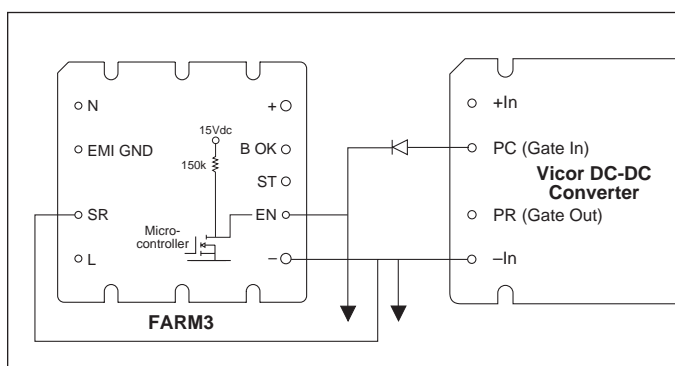

Figure 11—Enable (EN) function
Enable (EN) Pin. The Enable pin must be connected to the PC or Gate-In pin of all converter modules to disable the converters during power-up. Otherwise, the converters would attempt to start while the hold-up capacitors are being charged through the current limiting thermistor, preventing the bus voltage from reaching the thermistor bypass threshold, thus disabling the power supply. The Enable output (the drain of an N channel MOSFET) is internally pulled up to 15V through a 150kΩ resistor. (see Figure 11)